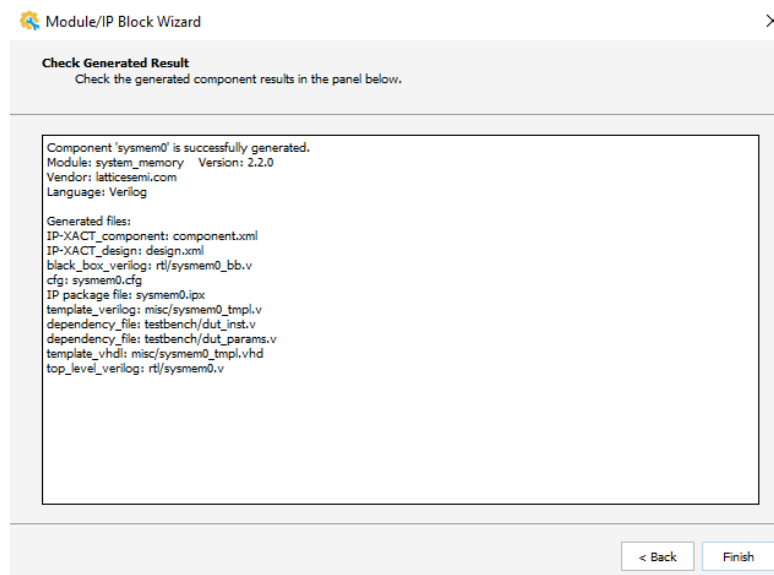

Figure 8.46. Click Finish
- Wait until the processing is complete and click **Finish** as shown in Figure 8.46.